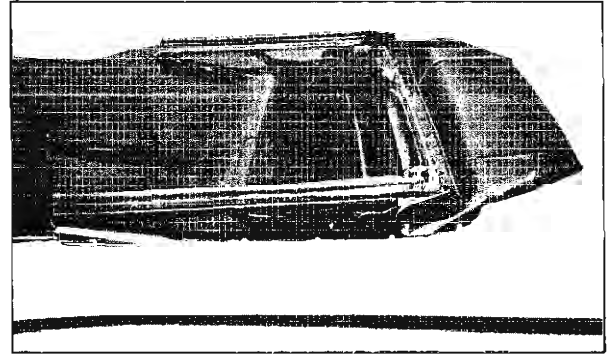

Fig. 21-11 Fold Corners of Top Material
4. Fold over corners of top material (Fig. 21-11).